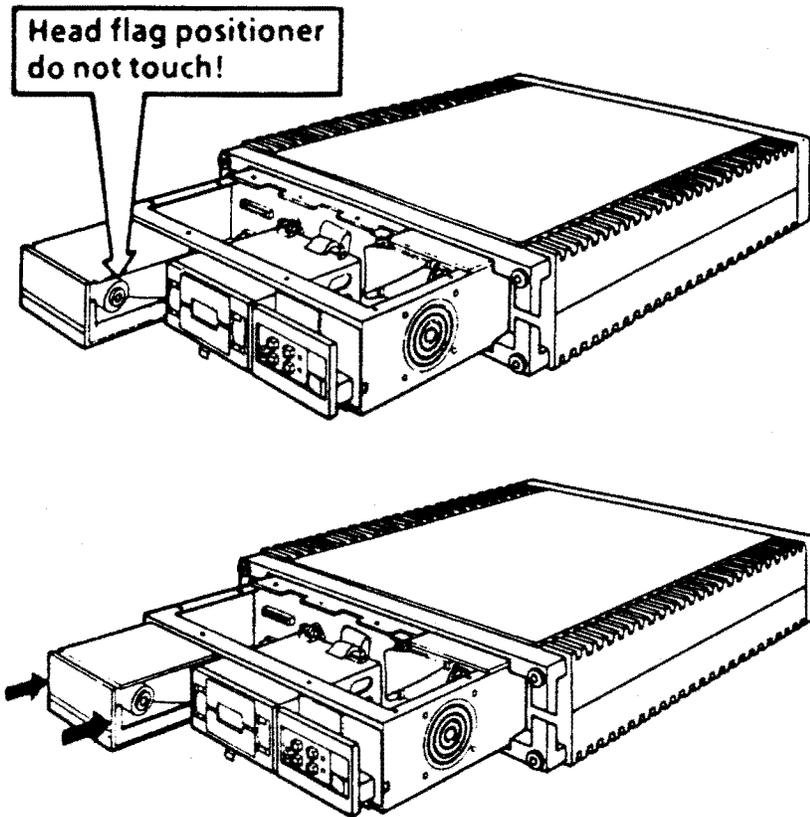

Figure 6-17: RD52 Insertion
4. Slide the drive most of the way into the chassis, leaving enough room to reconnect the cables (Figure 6-17). Push on the front corners of the drive. Observe the head positioner flag caution.